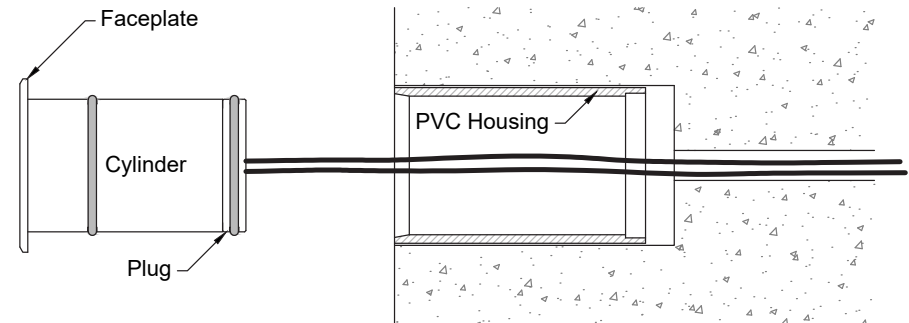
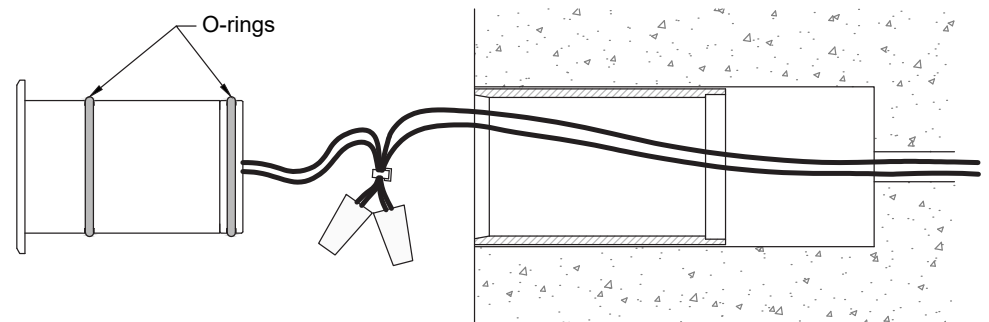

Figure 1a
Figure 1b
1. For existing masonry, use a 2" core drill to make a cavity 3-½" deep (Figure 1a) or up to 5" deep if wire connections will be made directly behind the fixture (Figure 1b). Follow with a small center hole for supply wire access if necessary.
5. Use included silicone-filled wire nuts to join fixture wires to the power source wires. Bind all the wires together near the wire nuts with a cable tie. (Figure 1b)
10. After concrete has cured, remove Flange and Form-Cyl and discard. After the forms are removed, trim fixture wires to 7" and use included silicone-filled wire nuts to join them to the power source wires. Bind all the wires together near the wire nuts with a cable tie. (Figure 1b)
8. After concrete has cured, remove Flange and Form-Cyl and discard. Form must be removed carefully to prevent damage to the end of the Housing. After the forms are removed, trim fixture wires to 7" and use included silicone-filled wire nuts to join them to the power source wires. Bind all the wires together near the wire nuts with a cable tie. (Figure 1b)
8. Trim fixture wires to 7" and use included silicone-filled wire nuts to join them to power source wires. Bind all the wires together near the wire nuts with a cable tie. (Figure 1b)
11. Trim fixture wires to 7" and use included silicone-filled wire nuts to join fixture wires to the power source wires. Bind all the wires together near the wire nuts with a cable tie. (Figure 1b)
7. Trim fixture wires to 7" and use included silicone-filled wire nuts to join fixture wires to the power source wires. Bind all the wires together near the wire nuts with a cable tie. (Figure 1b)